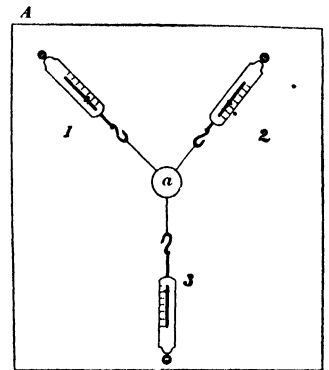

FIG 24
**II. Concurrent forces.** Fasten three spring balances to a small ring  $a$  by strings about 8 in long and slip the rings of the balances over wooden pegs or nails in a board  $AB$  about 3 ft square (Fig 24) Choose such holes for the pegs that each balance is stretched to at least one half of its full range